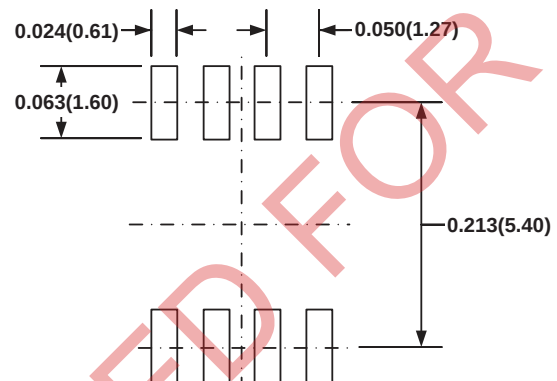

**Figure 14:MP6905 for Secondary Synchronous Controller in 90W Flyback Application**
6) See Figure 14 for the test circuit